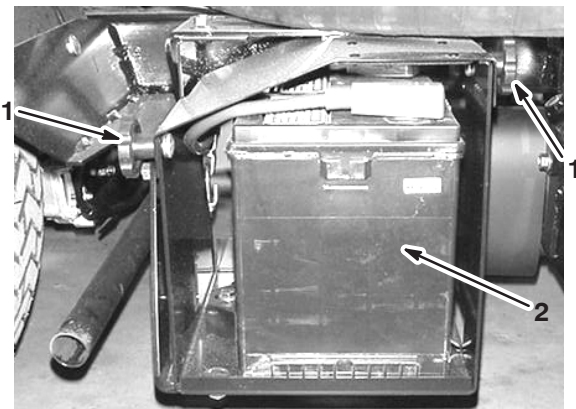

Figure 58
2. Loosen the knobs on the sides of the battery box and remove the battery cover (Fig. 58).
3. Remove the battery retainer and fasteners (Fig. 58).
3. Install the battery retainer and secure it with the fasteners you removed previously (Fig. 58).
4. Install the battery cover and secure it with the 2 knobs (Fig. 58).
1. Loosen the knobs on the sides of the battery box and remove the battery cover (Fig. 58).